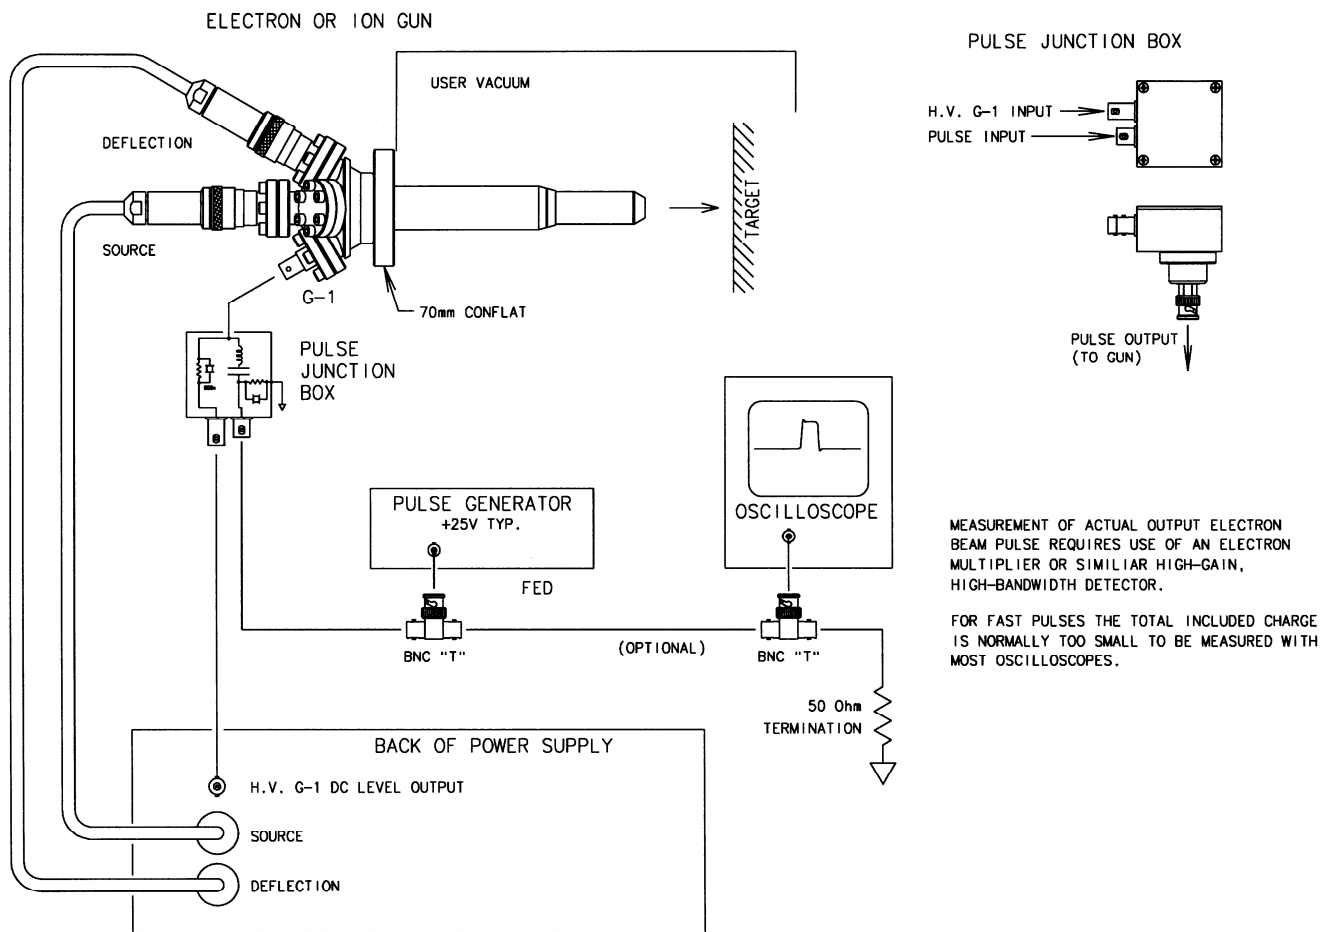

Fig. 4.7-4 Pulse Junction Box connections to gun, power supply and user-supplied equipment
2. See Fig. 4.7-4 below for a diagram of equipment layout. Also refer to the power supply and electron gun installation procedures in Sections 2.2 and 2.3.
4. Optional: Set up a user-supplied oscilloscope or other equipment to monitor pulsing; a terminating resistor may be needed. (Fig. 4.7-4)